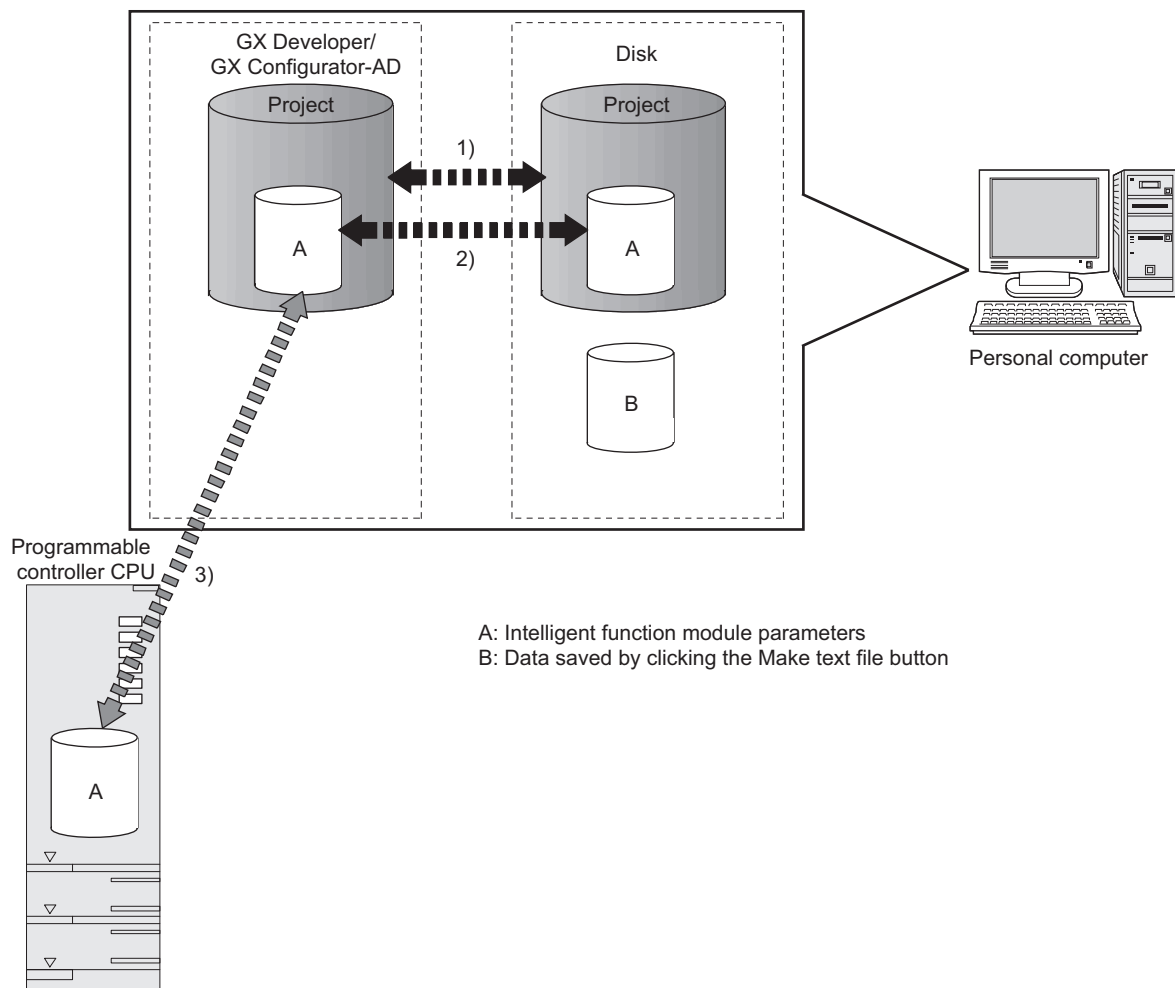

Figure 8.4 Correlation diagram of data created with the utility package
The following data and files to be created with the utility package are also be used for GX Developer. Figure 8.4 shows which data and files are used in which operation.
- (b) The following explains the operations of 1) to 3) in Figure 8.4.
Figure 8.4 shows when GX Configurator-AD is used.